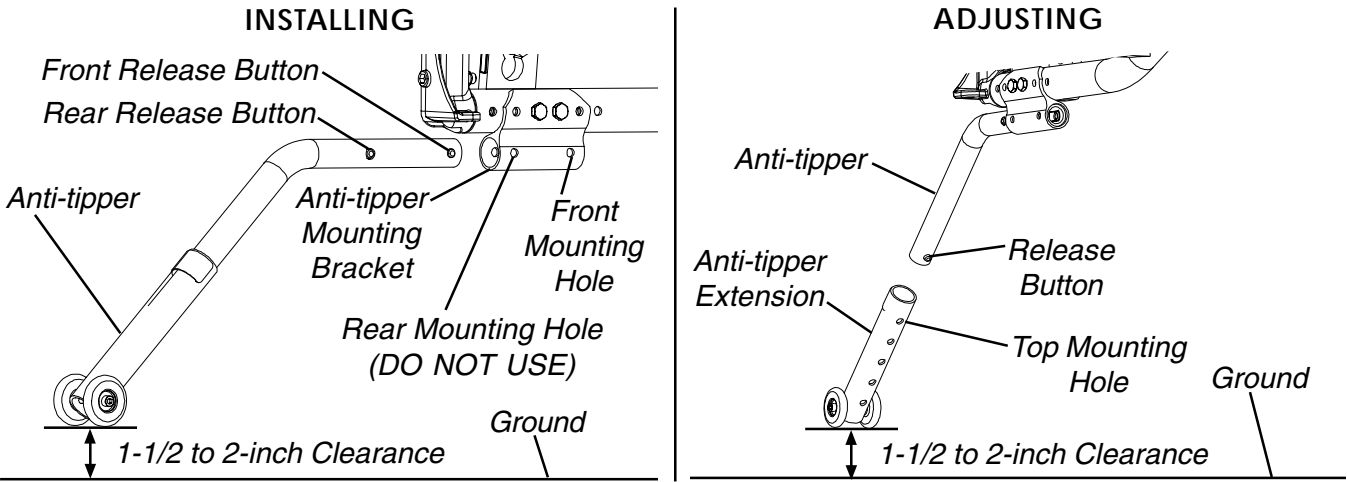

FIGURE 3 - INSTALLING/ADJUSTING THE ANTI-TIPPERS
INSTALLING/ADJUSTING THE ANTI-TIPPERS (FIGURE 3)
- 1. Refer to the charts in CHANGING SEAT-TO-FLOOR HEIGHT in this procedure of the manual and the chart in FIGURE 3 to determine the proper anti-tipper required.
- 1. Refer to the charts in CHANGING SEAT-TO-FLOOR HEIGHT in this procedure of the manual and the chart in FIGURE 3 to determine the proper anti-tipper adjustment.